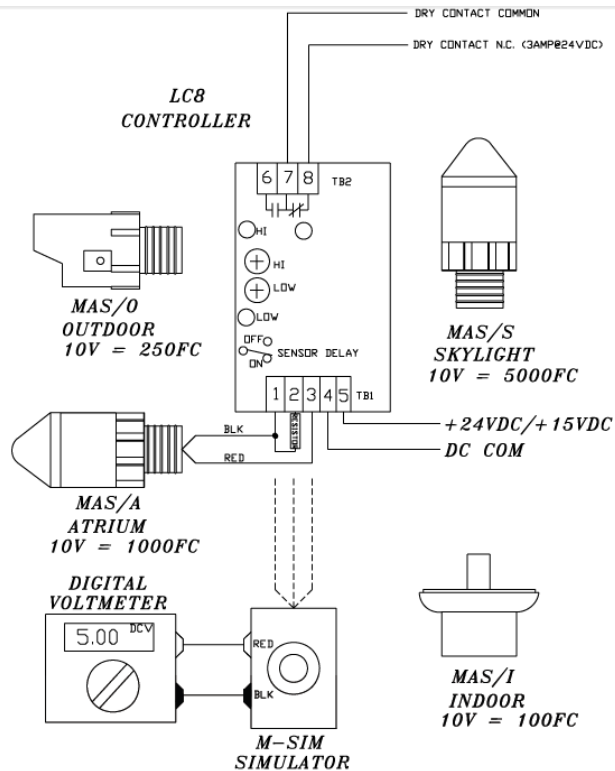

Figure 2: LC8 w/MAS Sensor and M-Simulator (Use of PCRK Required)
MAS sensor has two (2) wires. Using the MAS sensor with the LC8 requires the PC Replacement Kit (PCRK). Please consult the PCRK Installation and Maintenance Manual for further clarification. The Black wire should be connected to Terminal 2 and the Red wire should be connected to Terminal 3 (See Figure 2).